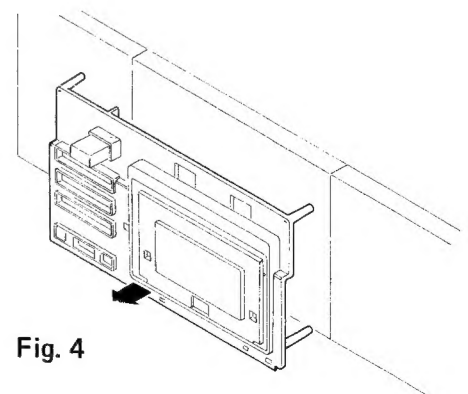

Fig. 4
- f) Remove the mantel assembly (Fig. 4).